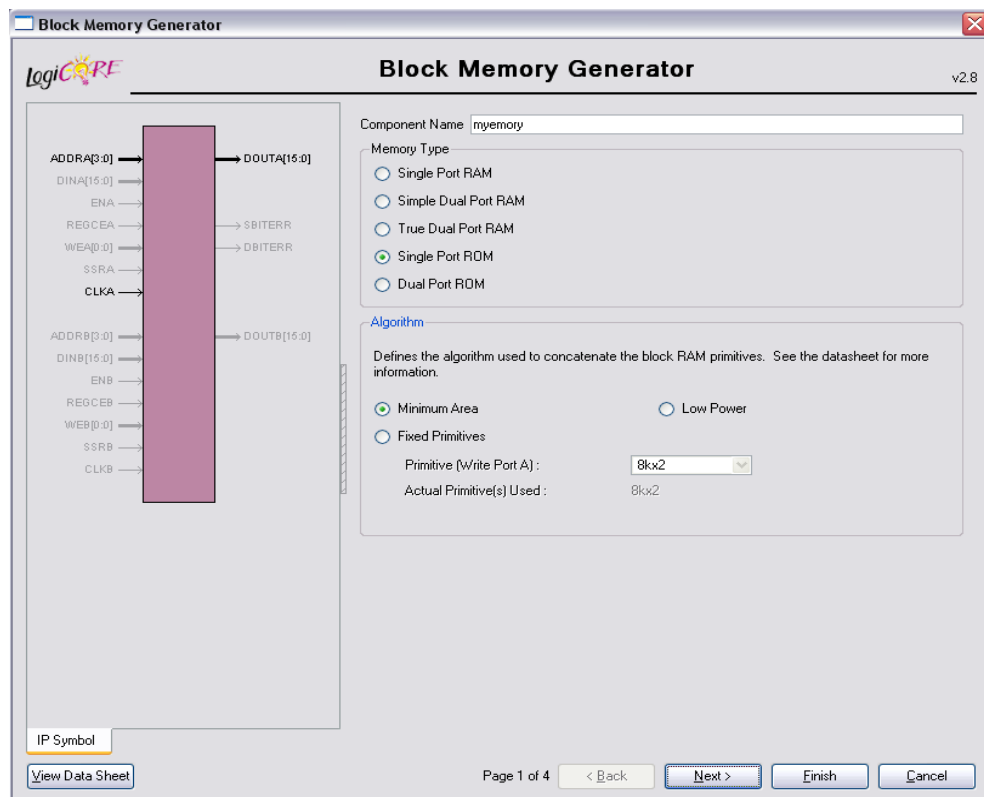
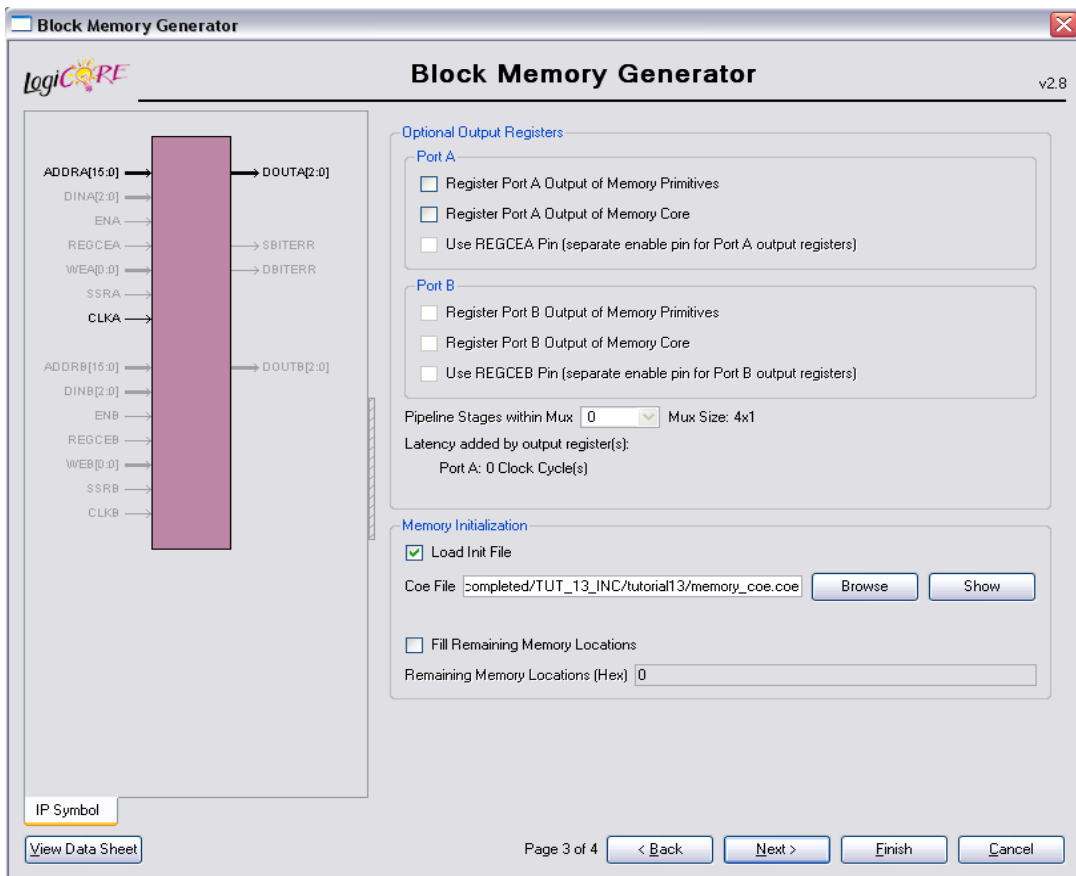

Figure 9: Single Port Block Memory
Figure 10: Single Port Block Memory. Page 3 of 4
d. In the next window select the characteristics of the memory (Figure 9). Since no data will be stored in the memory, choose the option **Single Port Rom** under **Memory Type**. Then click **Next**. The image that is used in the present design has 224 rows and 224 columns (224x224 image) and only 1 bit per color is used. The VGA controller uses three main colors (Red, Green and Blue), the **width** of the memory is set to **3** and the **depth** is set to $224 \times 224 = 50176$ (50176 possible locations). Click **Next** one time until **Page 3 of 4** (Figure 10) appears.